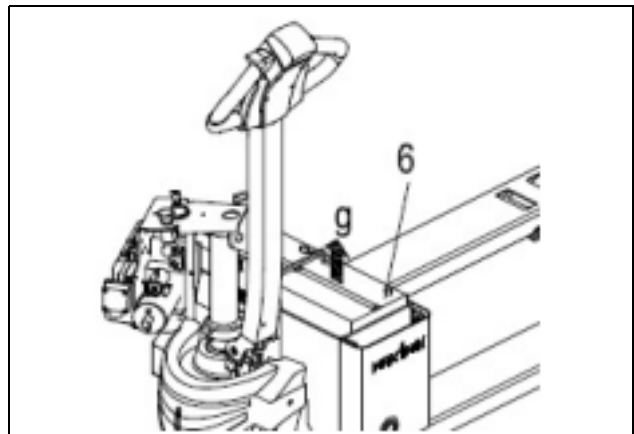

Figure 3-6 Cover Removal
- g. Replace batteries (6, Figure 3-6).